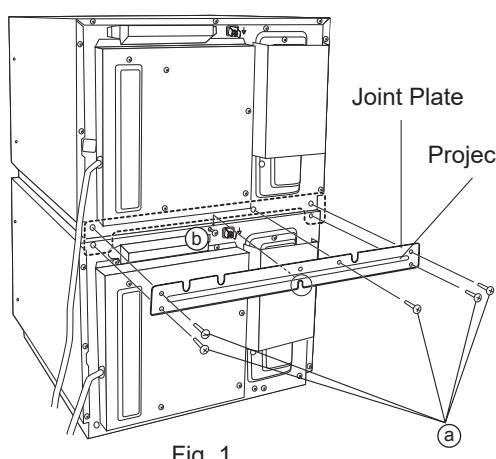

Fig. 1
1. Stack the units and remove five screws **(a)** as shown in Fig. 1.